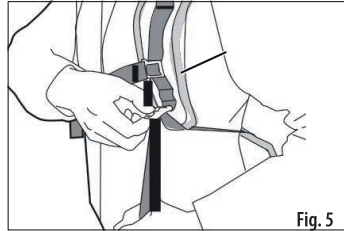

Fig. 5
1. Put your arms through the harness shoulder straps to support the backpack battery on your back and temporarily adjust both shoulder straps to comfortable positions, making sure that your shoulders are comfortable (Fig. 5).